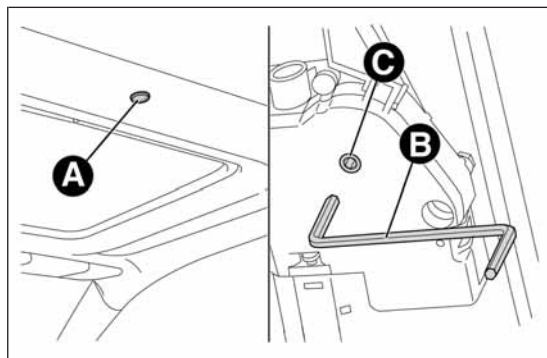

fig. 56
- ❑ remove the protective cap A fig. 56 located on the internal lining, between the two sun blinds;